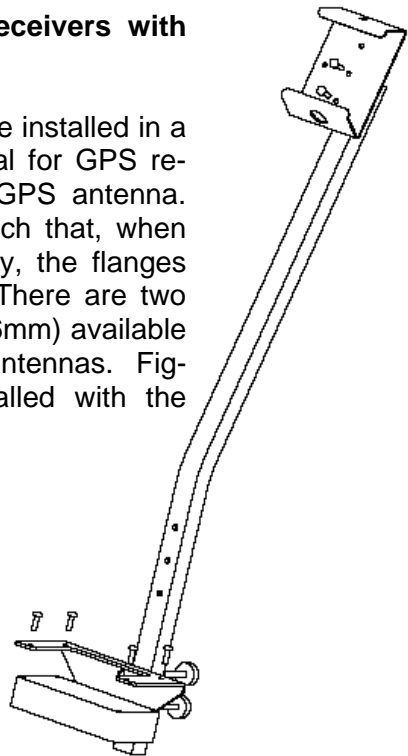

Figure 4: GPS Bracket installed in vertical orientation
The GPS Bracket (A) can also be installed in a vertical orientation. This is ideal for GPS receivers that have an external GPS antenna. The shape of the bracket is such that, when the bracket is attached vertically, the flanges will be level with the ground. There are two different hole sizes (7mm and 16mm) available to accommodate different size antennas. Figure 4 shows the bracket installed with the smaller hole at the top.